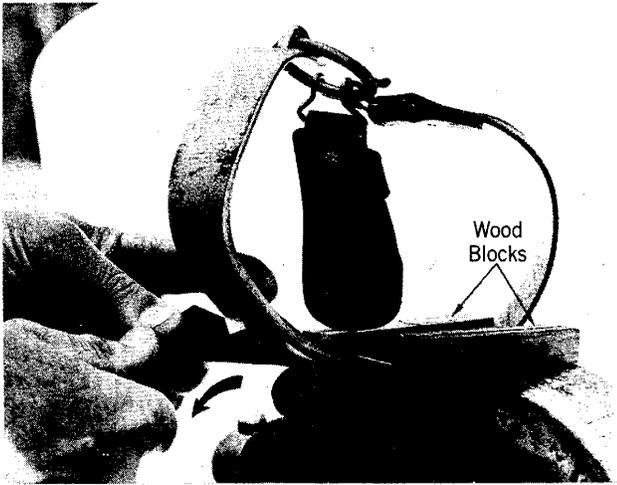

Fig. 21 – Honing Using Vise
7.05 When using a vise to hold a climber, always protect the leg iron by placing wood blocks between the vise jaws and the leg irons as indicated in Fig. 21. This prevents scoring the leg iron which may weaken it.